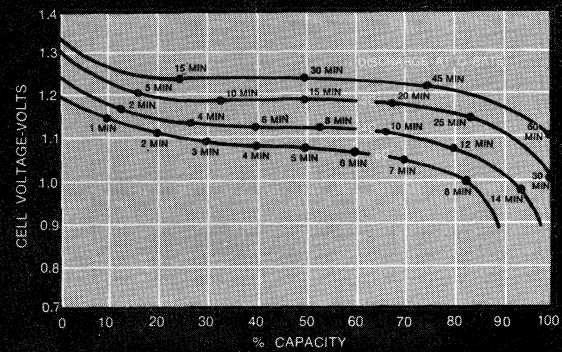

Fig. 2 Typical discharge characteristics of sealed cylindrical cells at  $20^{\circ}\text{C}$ .
The nominal capacity of such a battery is about 22 AH; however, this assumes an end point when the individual cell voltage is 1 V. In our application we have defined the end point as 24 volts for the battery pack which occurs when the cell voltage is 1.2 volts. Reference to Figure 2 shows that this results in an apparent loss of  $\approx 20\%$  of the AH capacity.
When charging at the high rate, there is a tendency for the batteries to over-heat when the end of charge is approached. When this occurs, a thermostat will reduce the charging current to the lower value. If time permits, charge at high rate for about 10 hours and then trickle charge for at least 4 days. This should enable the batteries to take the maximum charge. The capacity of the batteries is dependent on charging temperature, i. e. , if charged at 40 °C, only 60 percent of capacity will be available on discharge. See Figure 2 showing GE data sheet.
**VOLTAGE** — During discharge at the one-hour or "C" rate, the average voltage of a nickel-cadmium cell is approximately 1.2 volts. The plateau voltage level will vary with discharge rate as shown in Figure 2, but is nearly flat at all discharge rates until the cell approaches complete discharge.